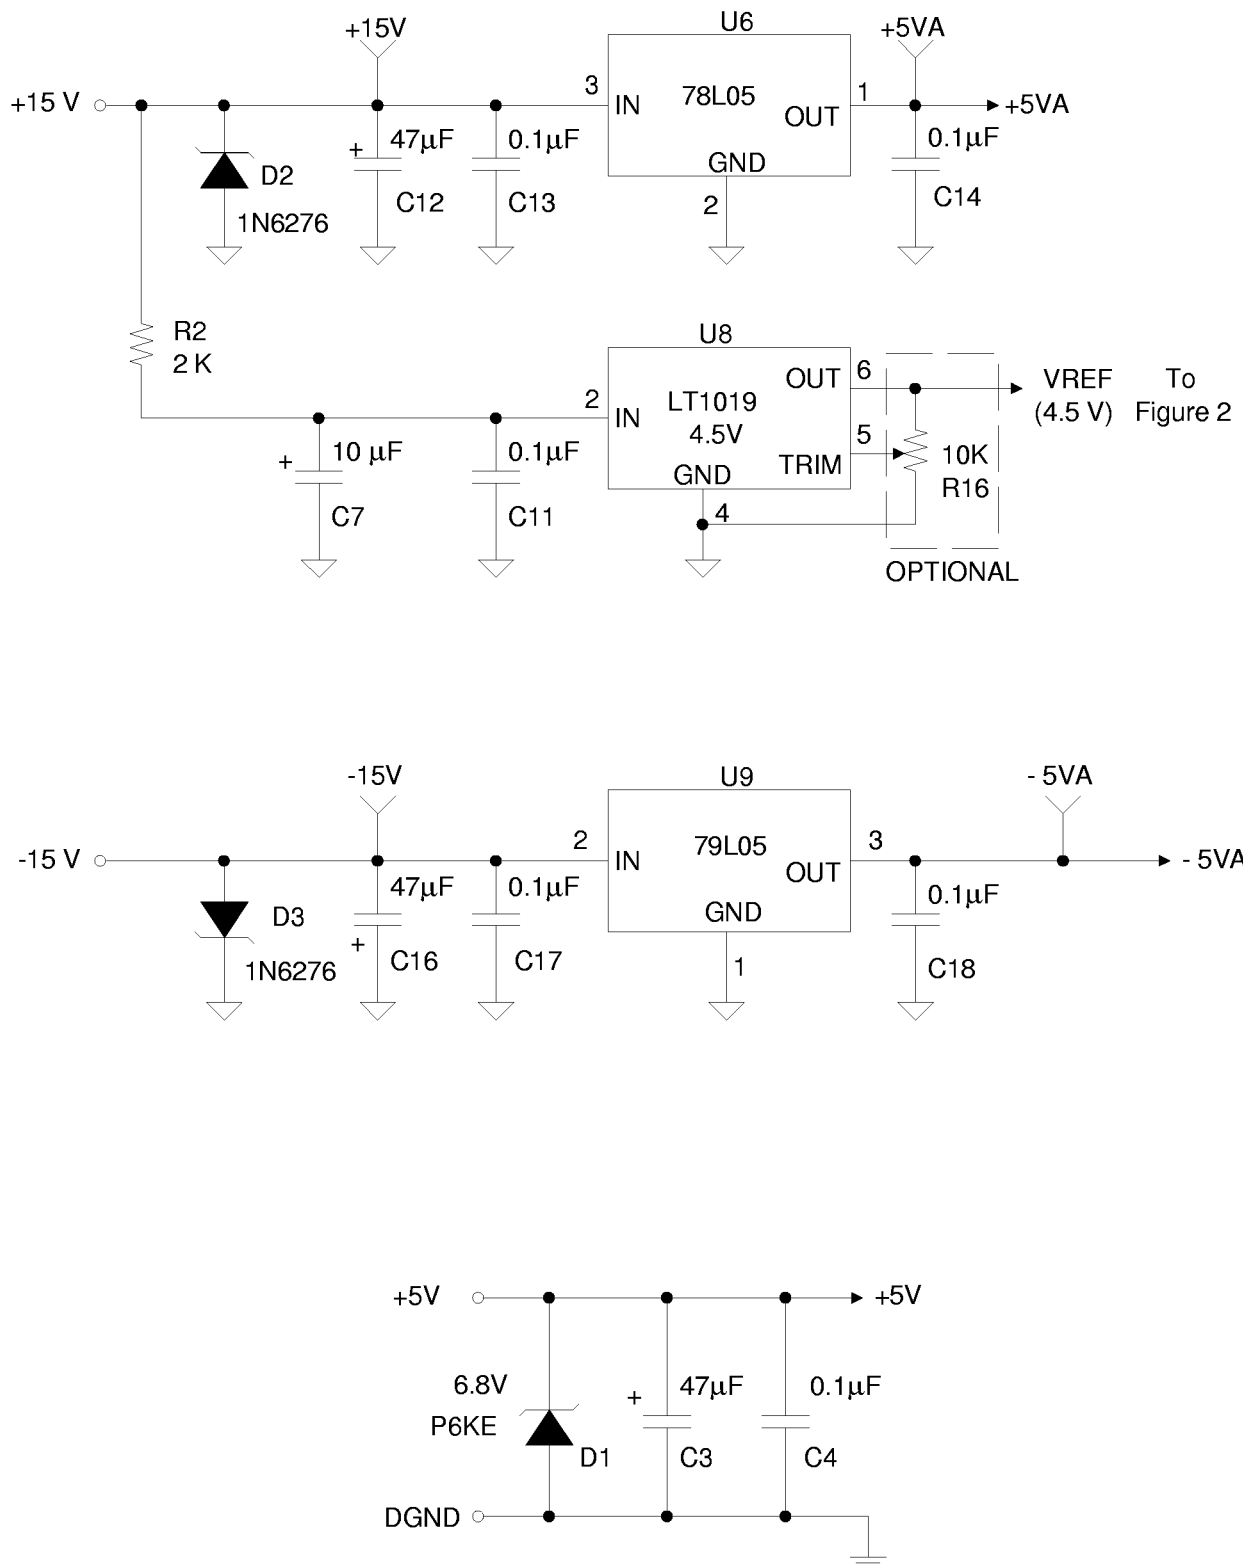

Figure 1. Power Supplies
The CDB5321 evaluation board requires three separate power supplies for proper operation. Figure 1 illustrates the power supply connections. The required power supply input voltages consist of +5V, +15V, and -15V. The CS5321 filter and logic support devices on the board operate from the +5V supply. The +15V and
-15V inputs are regulated down to provide +5V and -5V supplies necessary for the CS5321 modulator. Figure 1 also illustrates the LT1019 4.5V reference used with the CS5321 modulator.